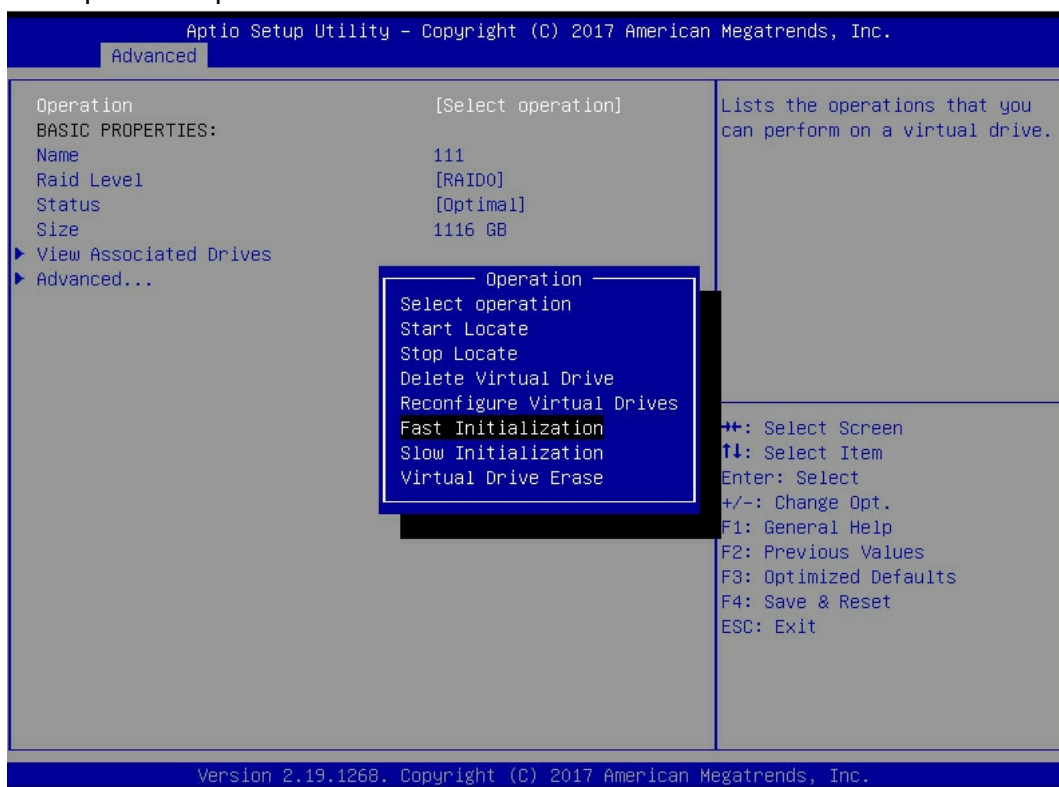

Figure 6-67
- c) Enter the interface shown in figure 6-67, select operation, press enter, and then select fast / slow initialization in the pop-up dialog, and press enter.
✧ Figure 6-67 operation operation interface